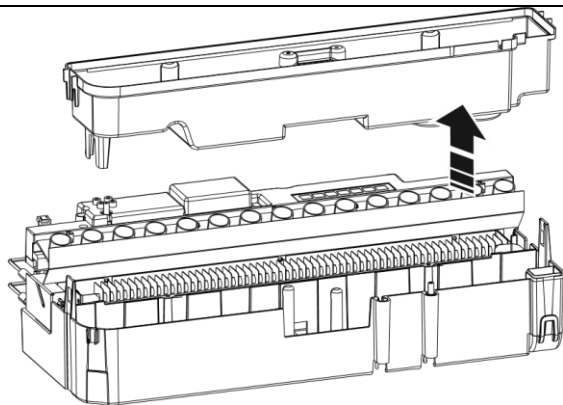

Fig 16
2. Gently slide the air filter upwards out of its plastic holder. (Fig 16)